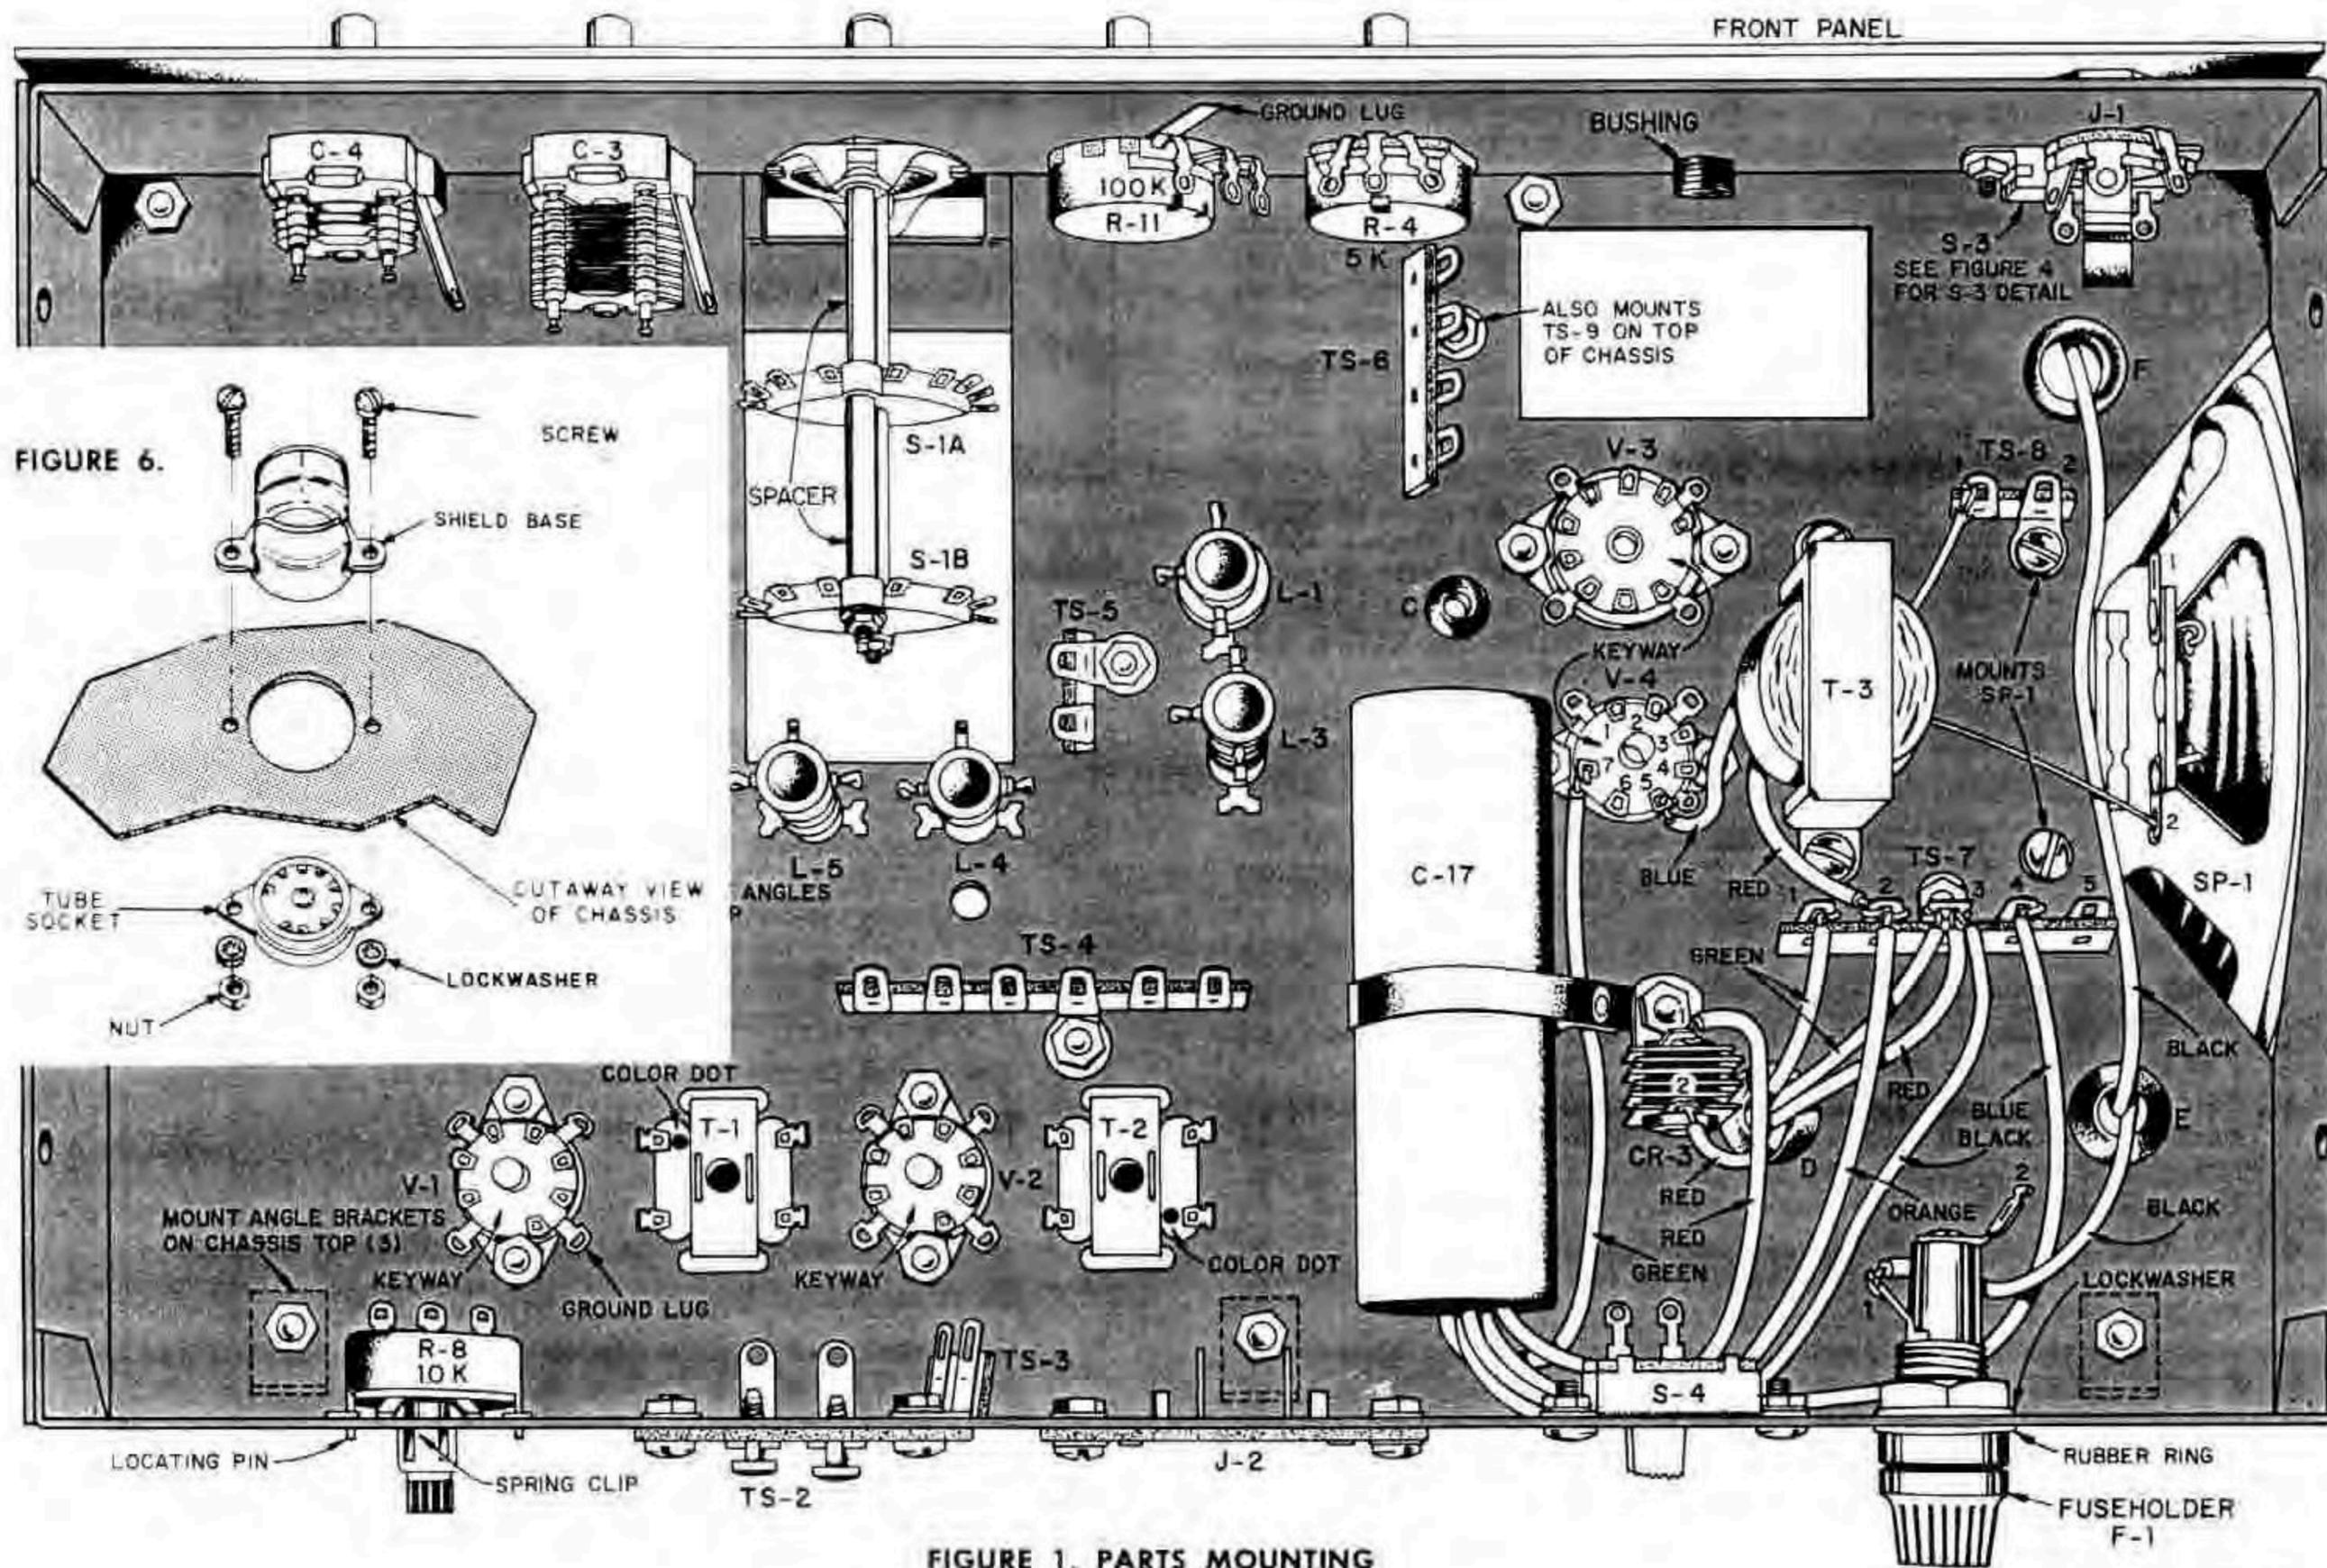

FIGURE 1. PARTS MOUNTING
- C-2 tuning capacitor with large drive pulley attached. Position on top of the chassis, with the plates of the capacitor opening toward the front panel as shown in Figure 16. Place a #8 lockwasher on each of two 8-32 screws. Fasten C-2 by inserting the screws from inside the chassis, into the threaded holes in C-2, through the holes labeled for C-2, in Figure 1.
- From inside the chassis, fasten the screw near the edge of the chassis with a lockwasher and nut. Mount TS-7, a 5-terminal strip, on the other screw used for T4. Fasten with a lockwasher and nut. Make sure TS-7 is positioned as shown in Figure 1.
SEE FIGURE 1.